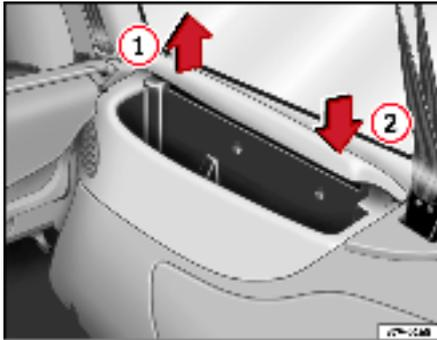

Fig. 102 Stowage compartment in the luggage compartment
**To open**, pull cover in the direction of the arrow ① ⇒ fig. 102.
**To close**, push cover in the direction of the arrow ② ⇒ fig. 102. ■